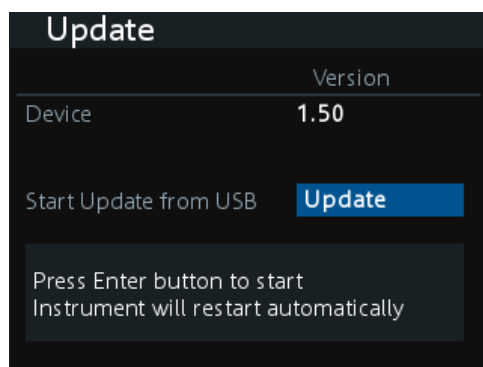

Figure 5-29: Update dialog
5. Select "Utilities > Update" menu item. If firmware file is found, the R&S NGE100B displays the "Update" dialog. See Figure 5-29.